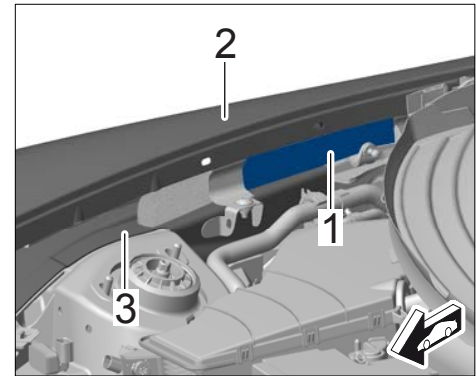

Figure 6
- 9 Carefully pull out foam seal ⇒ *Figure 6 -1-* between the right fender ⇒ *Figure 6 -2-* and longitudinal member for the wheel housing upper section ⇒ *Figure 6 -3-* and remove any adhesive residue on the longitudinal member.
The foam seal ⇒ *Figure 6 -1-* will be re-used during installation.